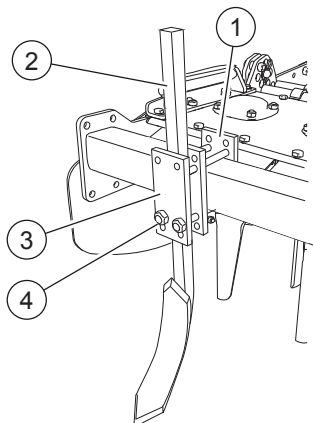

FIG. 19
Fit the track eradicator support (1, “Fig. 19”) onto the front bar. Insert track eradicator (2) between the plates (3). Adjust height from the ground. Tighten nuts (4).